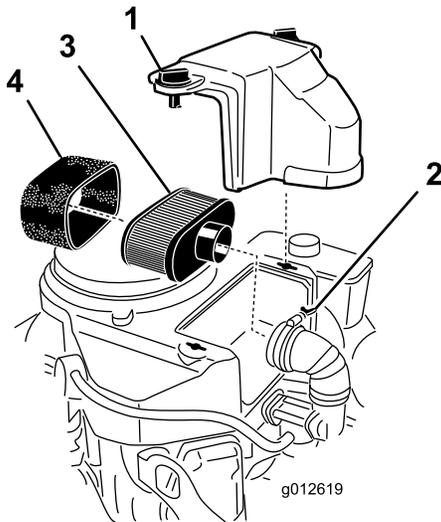

Figure 24
3. Clean around the air cleaner to prevent dirt from getting into the engine and causing damage (Figure 24).
4. Unscrew the cover knobs and remove the air cleaner cover (Figure 24).
5. Unscrew the hose clamp and remove the air cleaner assembly (Figure 24).
6. Carefully pull the foam element off the paper element (Figure 24).
1. Do not clean the paper filter, replace it (Figure 24).
1. Carefully slide the foam element onto the paper air cleaner element (Figure 24).
2. Place the air cleaner assembly onto the air cleaner base and secure it with the 2 wing nuts (Figure 24).
3. Place the air cleaner cover into position and tighten the cover knob (Figure 24).